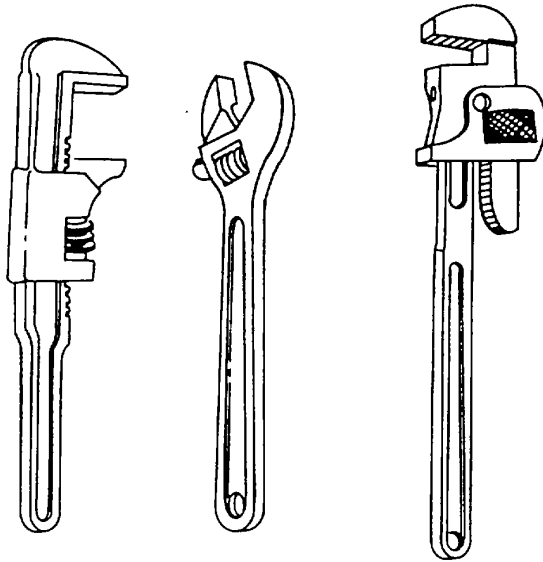

Figure 4-25. Adjustable Wrench
(4) *Adjustable wrench.* Adjustable wrenches include crescent, auto, and pipe wrenches, shown in figure 4-25. These wrenches are generally intended for use on odd-sized nuts and bolts, and are adjusted by a knurled worm gear, which moves the movable jaw to fit the part. Adjustable wrenches are available in sizes ranging from 4 to 24 inches in length. The jaw capacity is proportional to the handle length.